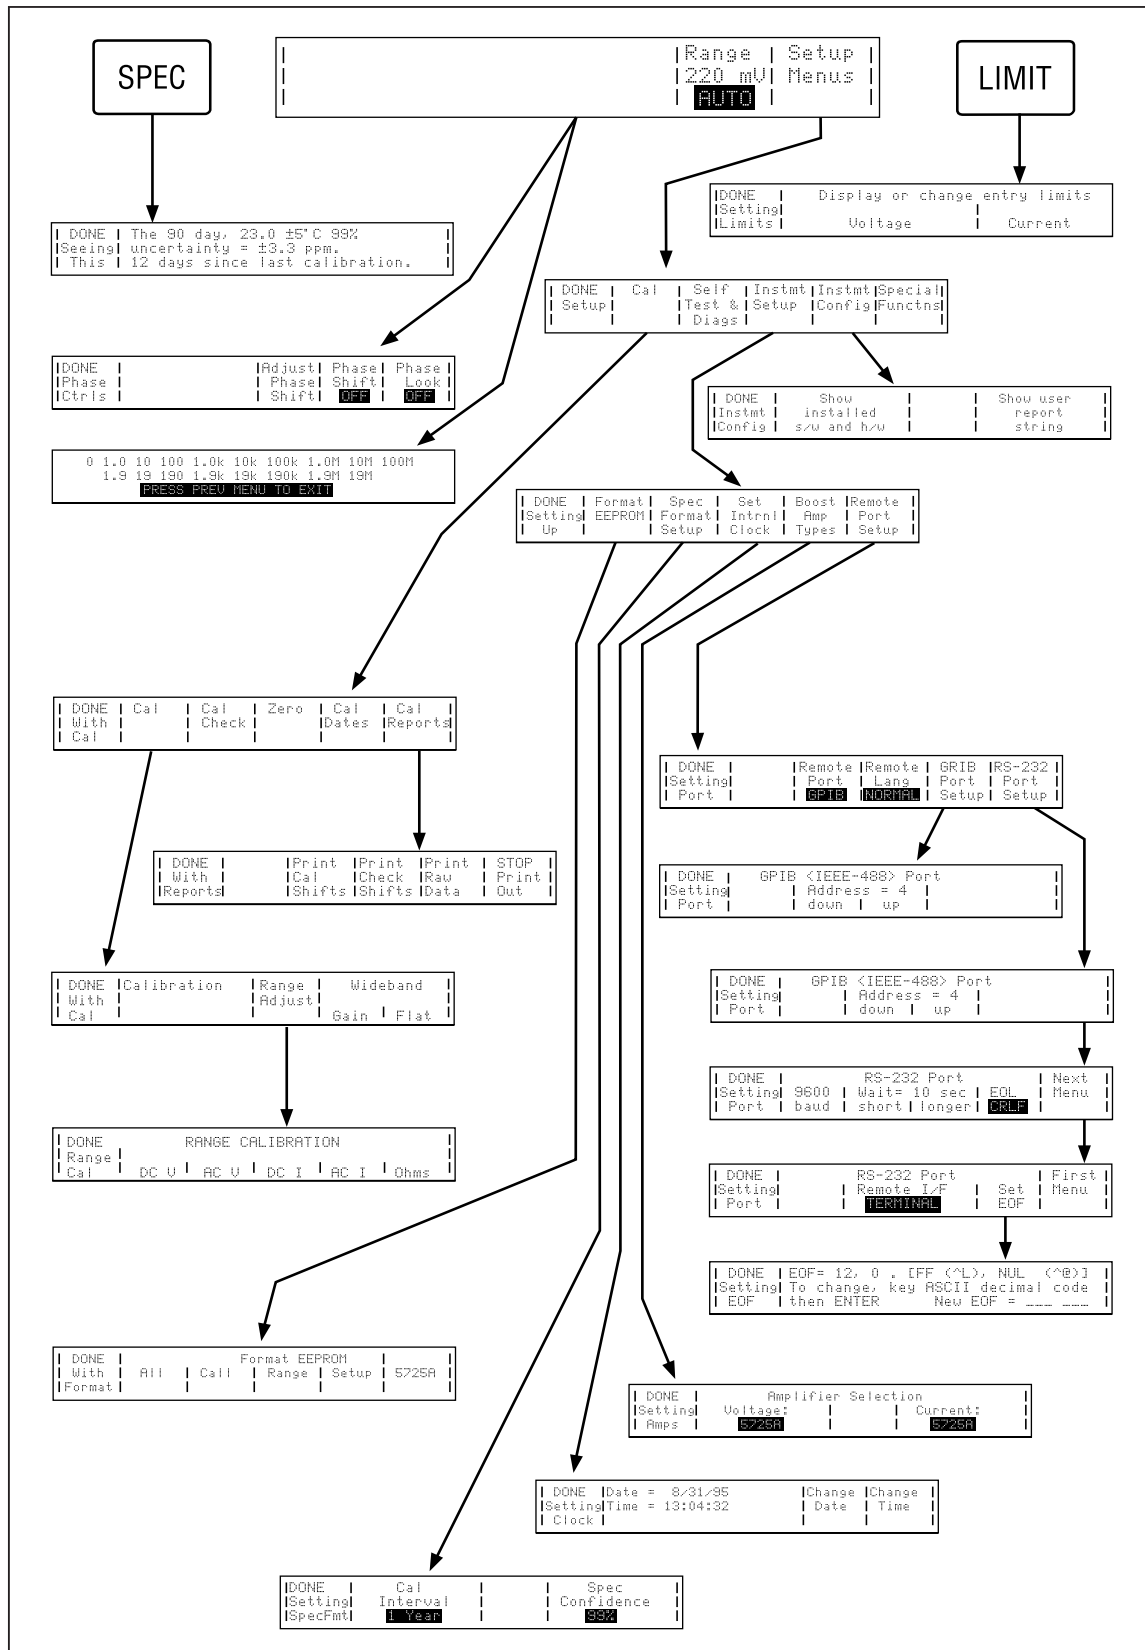

Figure 3-3. Softkey Menu Tree
<p>②</p> <p>Control Display</p>	<p>An alphanumeric vacuum-fluorescent display that shows data entries, UUT error adjustments, menus, and other prompts and messages. Each menu contains a set of softkey labels that identify the functions of the softkeys directly below them. The changing menus provide access to many different functions through the five softkeys plus the  key. (See Figure 3-3, Softkey Menu Tree.)</p>
<p>9</p> <p>Softkeys</p>	<p>The functions of the five unlabeled softkeys are identified by labels on the Control Display directly above each key. The functions change during operation so that many different functions are accessible through these keys. A group of softkey labels is called a menu. A group of interconnected menus is called a menu tree. Figure 3-3 shows the menu tree for the calibrator.</p>
The functions of the six softkeys described under “Front Panel Features”, are represented by menus containing labels displayed directly above each key. These functions change whenever you access a new menu. Figure 3-3 shows the hierarchy of all the menus available for the calibrator.